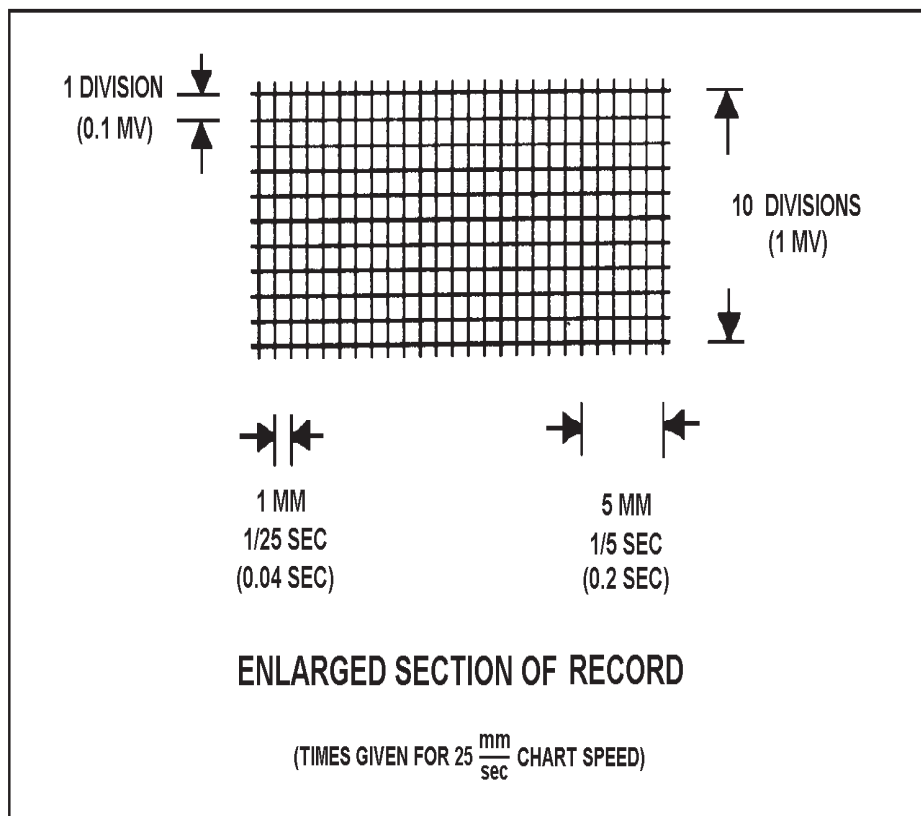

Figure 3-13. EKG graph paper
(2) Notify the medical officer of any other irregularities of the heart's rhythm after you have completed the tracing, but before you remove the electrodes from the patient. (A second tracing may be ordered.)
a. Time is measured on the horizontal axis of the EKG graph paper. (See Figure 3-13.)